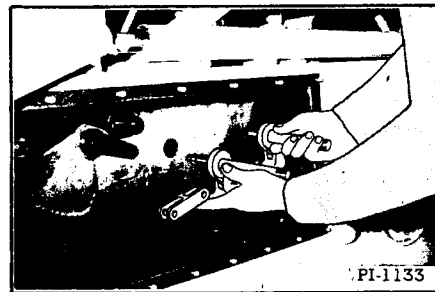

Fig. 20 Removing Clutch Pins & Bar
13. Remove the clutch pins and actuating bar (Figure 20).